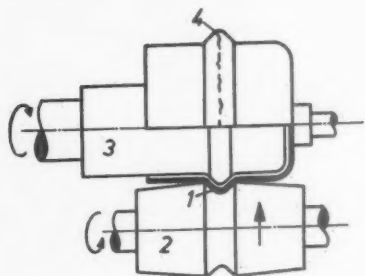

Fig. 7
**The Electro-Test** determines objectively, i.e. independently of the subjective observation of the investigator, the moment crack formation occurs in the cupping test (that is, the extensibility limit of the coating). As shown in Fig. 7, an electrical-conducting fluid and an AC circuit with a resistance measuring device are applied to the deformed coating film. This test also determines whether a coating is porous or not. In such cases, without the tinplate being de-
**The Seam Test** was developed especially because of the lack of quantitative methods for numerically determining the stamping lacquer characteristics, (Fig. 7). As is well known, stamping lacquer breaks or cracks most easily on seam edges, as with shoe-polish or floor wax cans, where greatest deformation takes place. In practice such seams are rolled up into the can wall, which is also done with the Seam Test apparatus on standard cups of the stamping lacquer test having a definite lacquer deformation. The seam is drawn to the limit of deformation. The depth of the wall seam, at which the stamping lacquer shows first cracks at the seam edge, is taken as the measure of the seam cupping. Crack formation is observed by means of a microscope, and the seam depth may be read off a scale with precision to 0.02 mm.